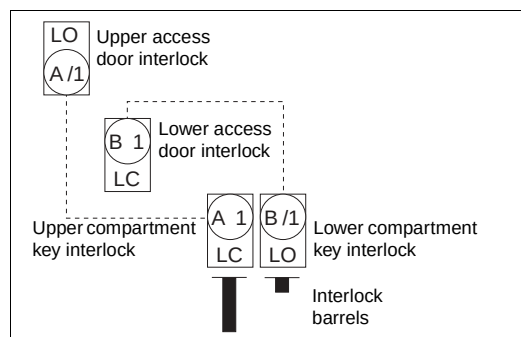

Figure 15: Interlock Status (Step 4.a.)
4. Insert the interlock key and turn the key clockwise to lock open (LO) the access door interlock.
- a. If device is racked into an upper circuit breaker compartment, lock open (LO) the upper access door interlock (see Figure 15).